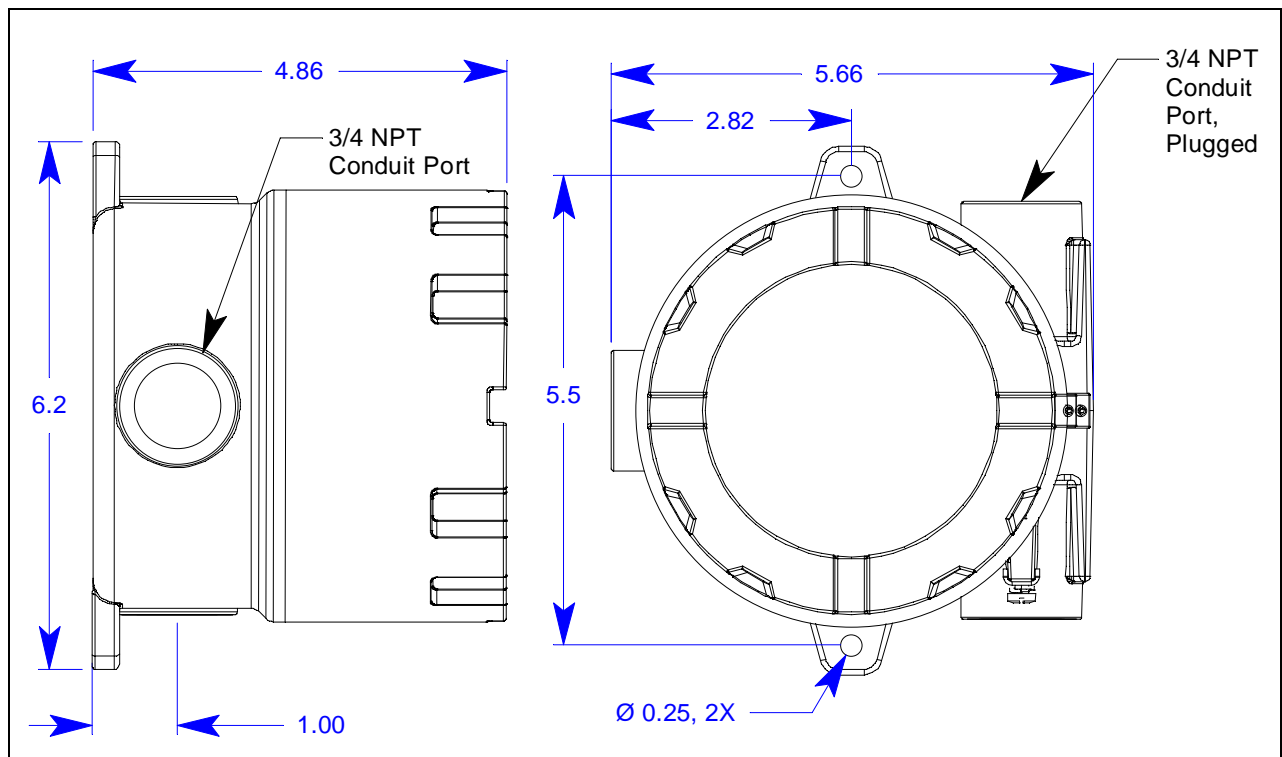
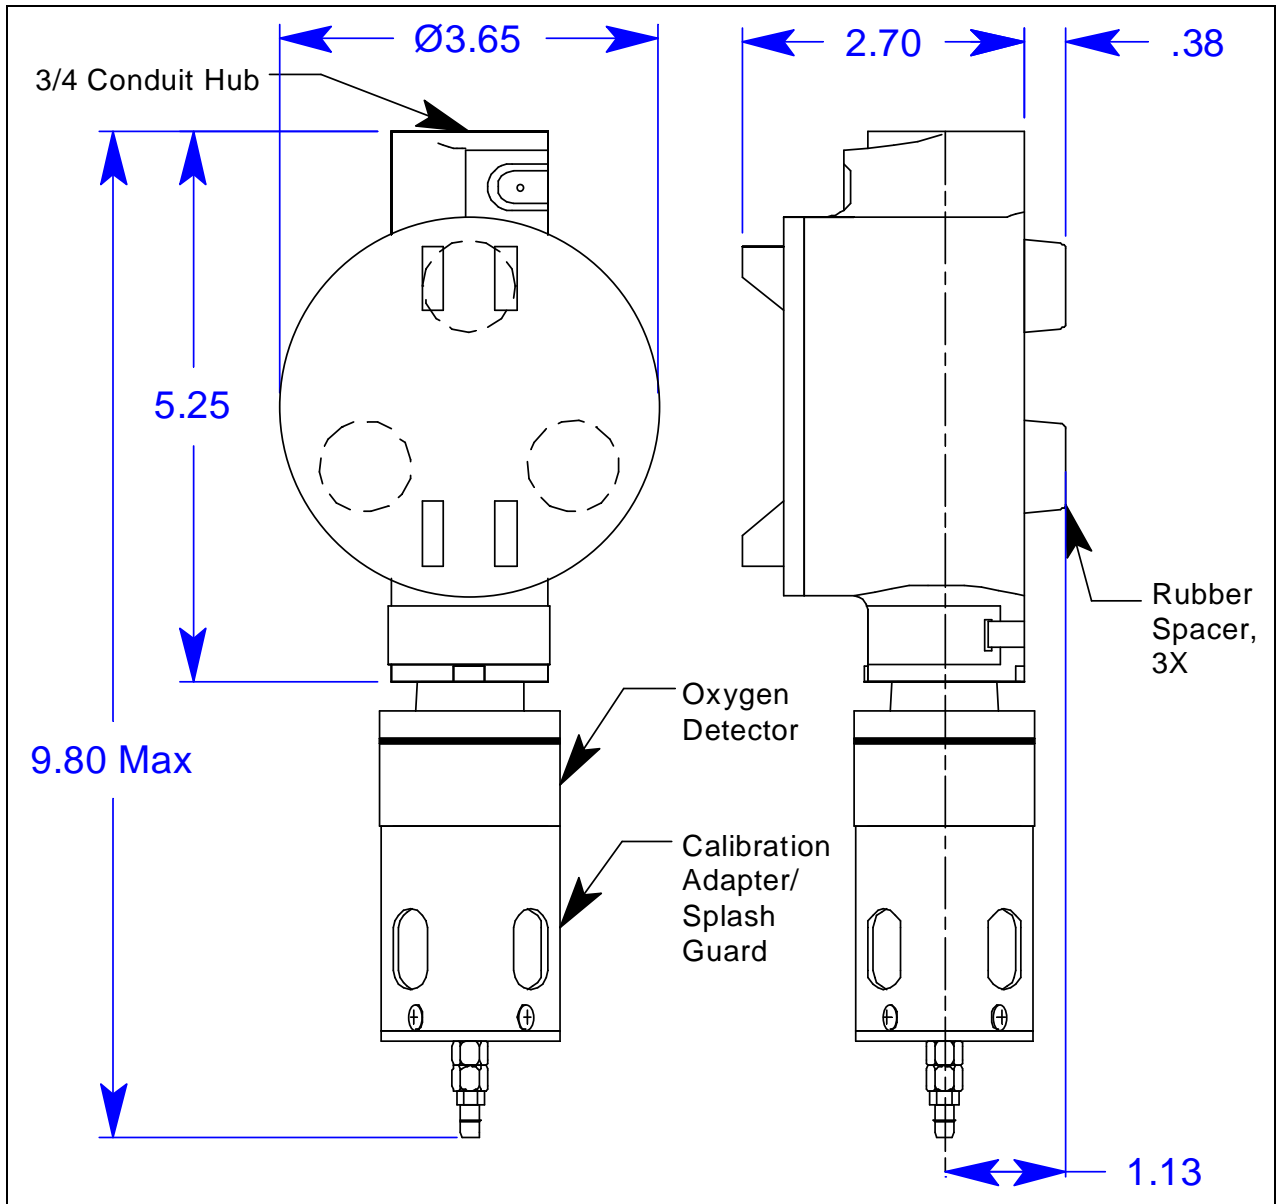

Figure 6: Outline & Mounting Dimensions, M2A Junction Box
Figure 7: Outline & Mounting Dimensions, Detector Junction Box
2. Use #10 screws through the M2A junction box's two mounting holes to secure the junction box to a vertical surface. Figure 6 shows the outline and mounting dimensions for the M2A junction box. Figure 7 shows the outline and mounting dimensions for the detector junction box. Mount the detector junction box with the detector facing down as shown in Figure 7.